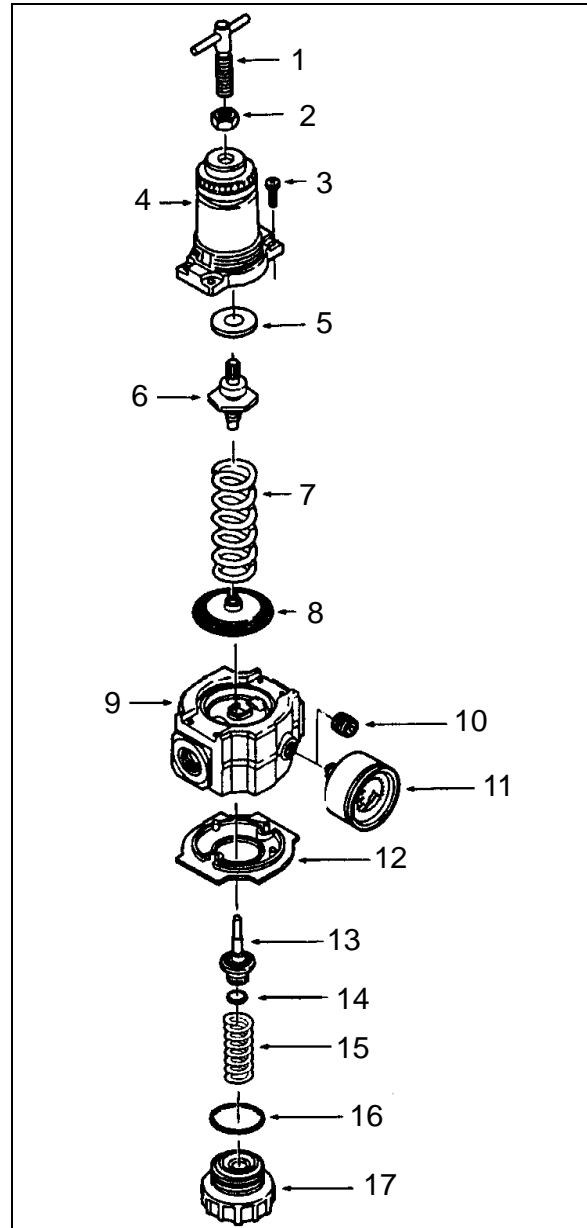

FIGURE 16: REGULATING VALVE
1. Before turning on system air pressure, release jam nut (2, Fig. 16) then turn regulator adjustment counterclockwise until all load is removed from the regulating spring.
5. Tighten jam nut (2, Fig. 16) to lock pressure setting.
1. Shut off inlet pressure and reduce pressure in inlet and outlet lines to zero. Turn regulator adjustment (1, Fig. 16) counterclockwise until all load is removed from regulating spring. Regulator can be disassembled without removal from air line.
1. Lubricate O-ring (14 and 16, Fig. 16), valve stem (13, Fig. 16), tip of adjusting screw (1, Fig. 16), and the outer circumference and both sides of the thrust washer (9, Fig. 16) with a light coat of good quality O-ring grease.